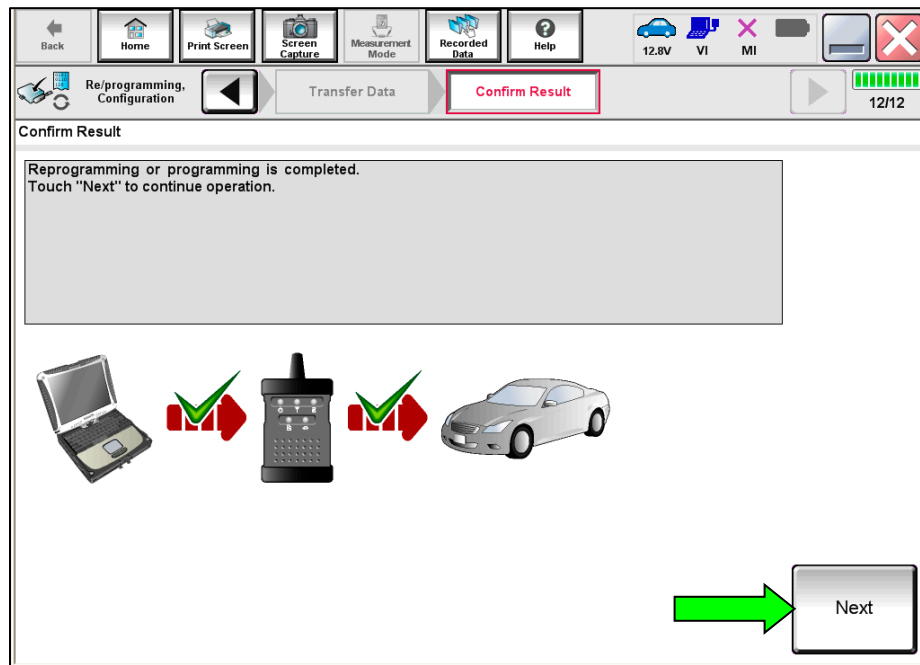

Figure 28
38. Once the screen in Figure 28 displays, the reprogramming is complete. Select **Next**.
- HINT:** When the screen in Figure 28 displays, HV Battery reprogramming is complete. If the screen in Figure 28 does not display (indicating that reprogramming did not complete), refer to the information on page 37.